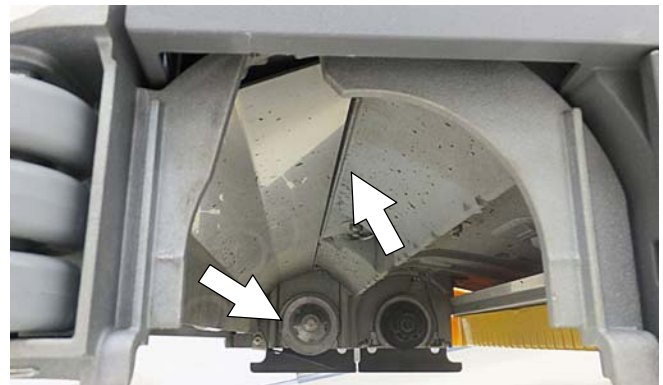

FIG. 67
3. Cylindrical scrub head - Remove debris buildup from underside of scrub head, including the idler plates and drive hubs (Figure 67).